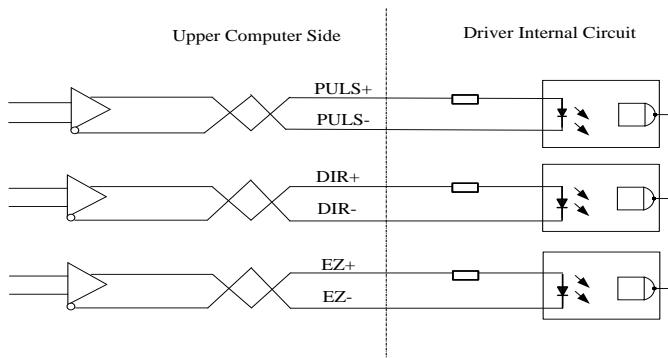
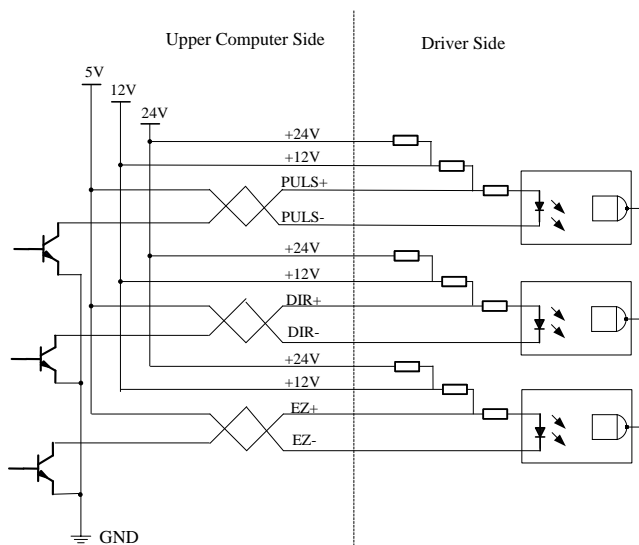

Fig. 2-15 Input Pulse Quantity Differential Driving Mode
Fig. 2-16 Input Pulse Quantity Single Ended Driving Mode
There're two driving modes for pulse quantity input interface, which are namely: (1) Differential driving mode; (2) single ended driving mode. These are shown in Fig. 2-15 and Fig. 2-16 respectively.